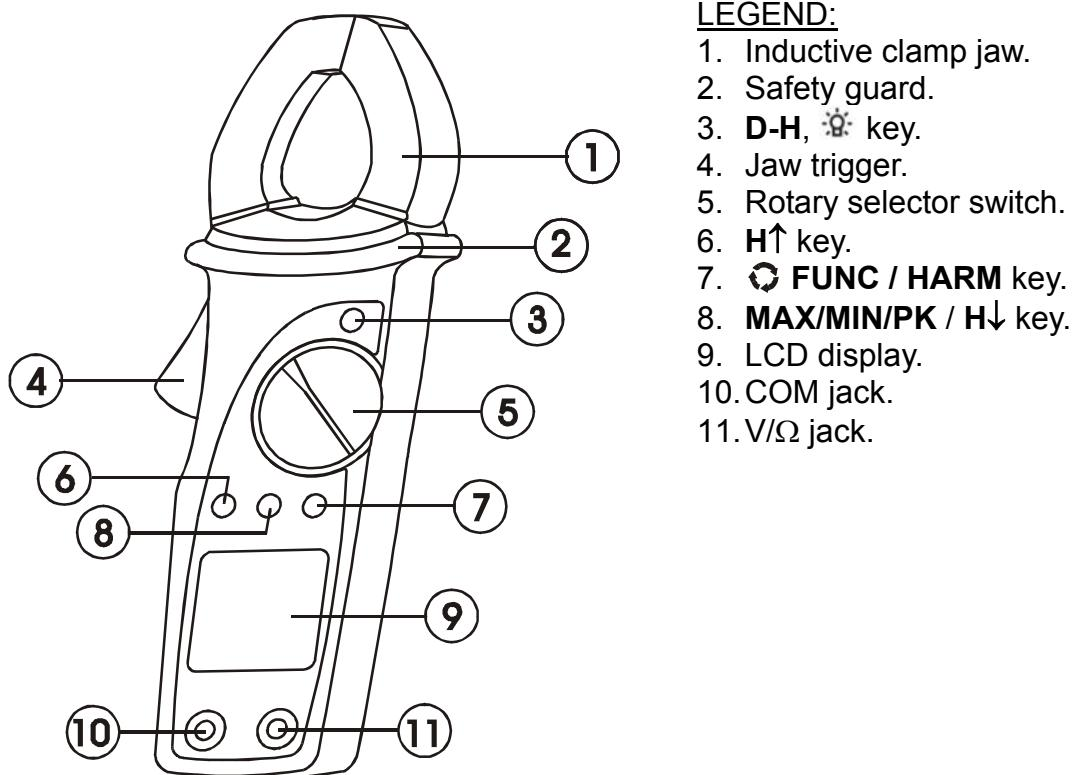

Fig. 1: Instrument description
- Take care not to allow your hand to pass over the Safety Guard (see Fig.1, pos.2) on current measurements and voltage measurements using the holster.